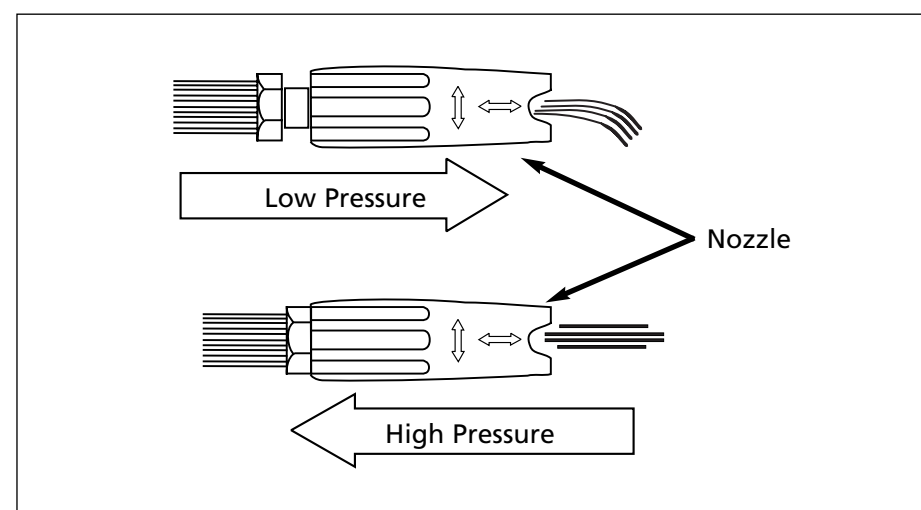

Figure 20 - Adjusting nozzle for pressure
- 3a. Place hand around the 3.5" spraying end section of the lance (the section that turns from left to right). Pull firmly and quickly away from you. (**NOTE:** Do not adjust lance while spraying.) The lance will extend 1/2" and be in low pressure (see Figure 20). Soap can only be drawn in low pressure.
- 3a. Place hand around the 3.5" spraying end section of the lance (the section that turns from left to right). Pull firmly and quickly away from you. (**NOTE:** Do not adjust lance while spraying.) The lance will extend 1/2" and be in low pressure (See Figure 20). Soap can only be drawn in low pressure.